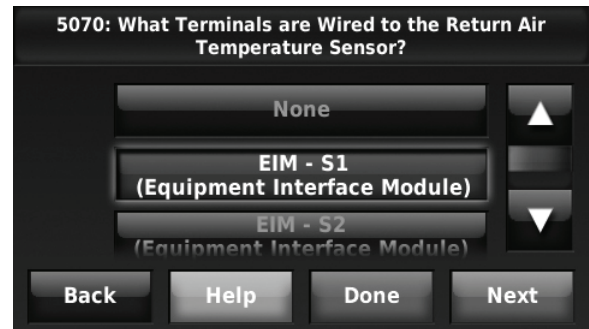

Fig. 150.
*Be sure to select the correct terminals for the discharge and return air sensors. For example, if the return air sensor is wired to S1, select S1 (see Fig. 150) for the return air sensor.*